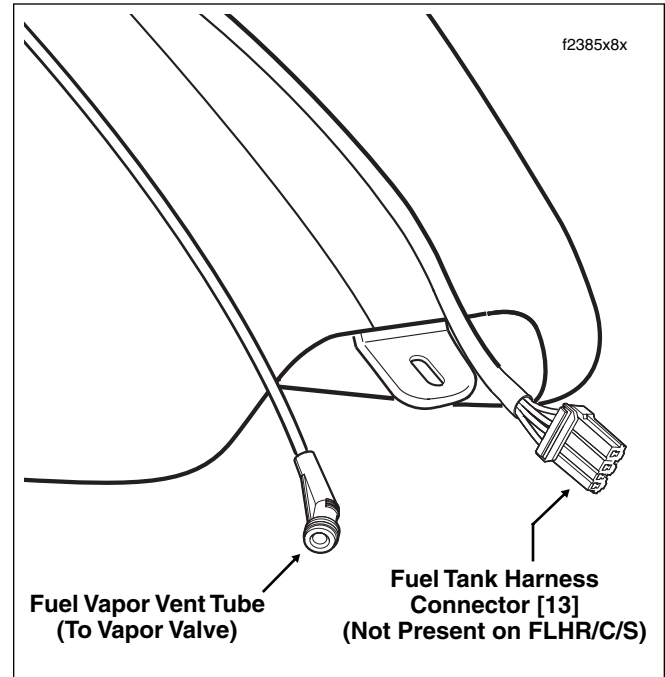

Figure 4-16. Fuel Level Sender Connector (FLHX, FLHT)
4. Disconnect fuel tank harness connector [13], 4-place Multilock, in front of battery. See Figure 4-16.
11. Connect fuel tank harness connector [13], 4-place Multilock, in front of battery. See Figure 4-16.
3. Disconnect fuel tank harness connector [13], 4-place Multilock, in front of battery. See Figure 4-16.